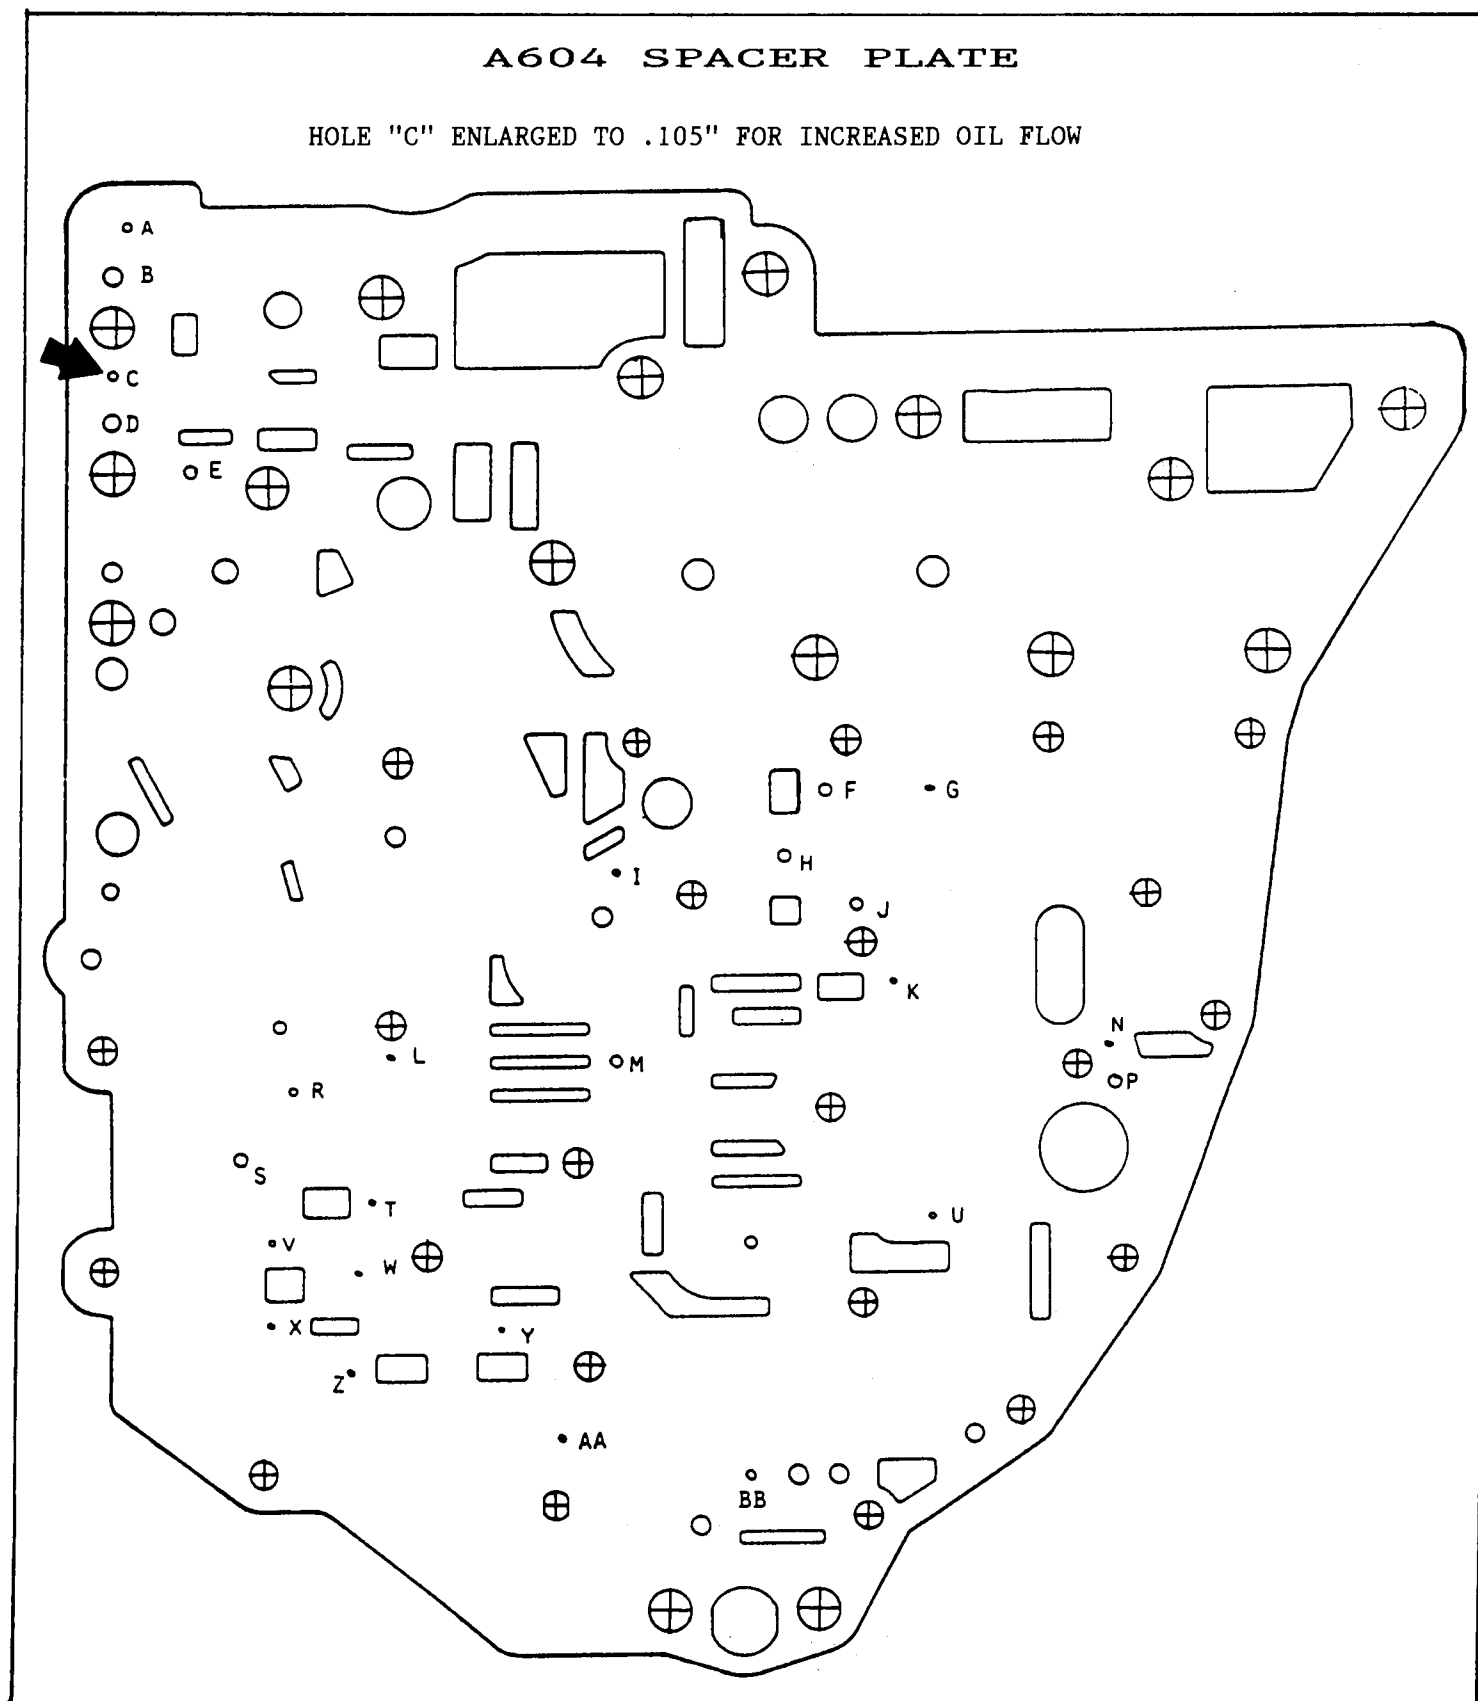

Figure 4
- (5) SPACER PLATE - The new Spacer Plate has a larger (.105") overdrive clutch feed orifice to provide increased oil flow to the overdrive clutch circuit (See Figure 4).
- (6) TRANSAXLE CONTROLLER - If the Transaxle Controller is part number 5234623 or 5234649, REPLACE it with a 5234678 controller.